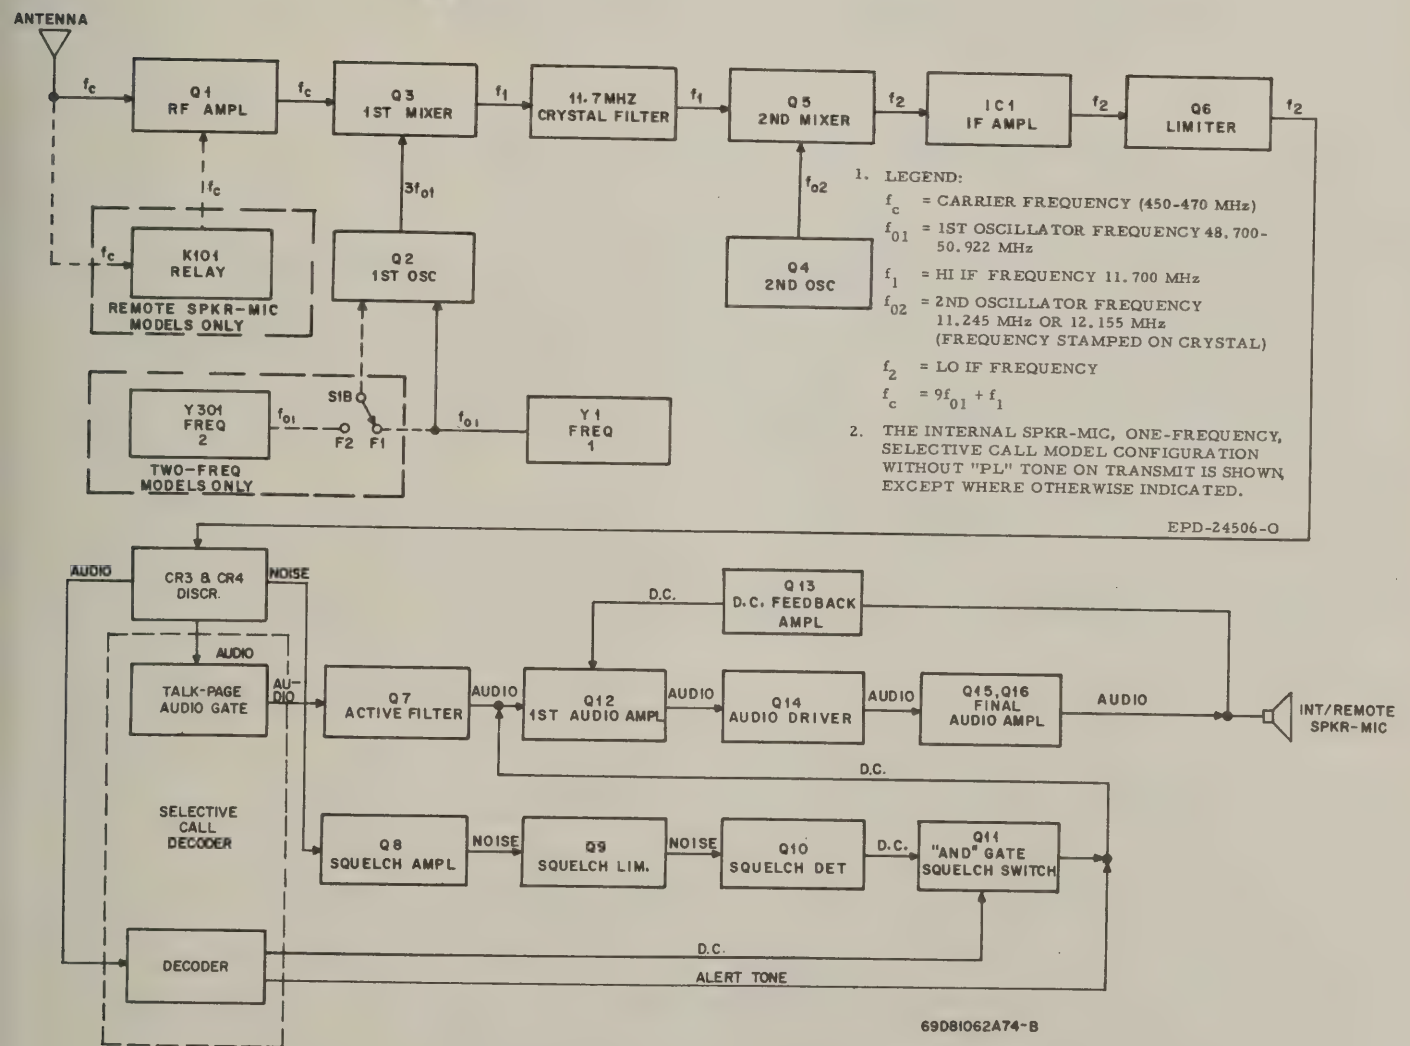

Figure 4. Typical Receiver Block Diagram
(3) Receiver Refer to Figure 4